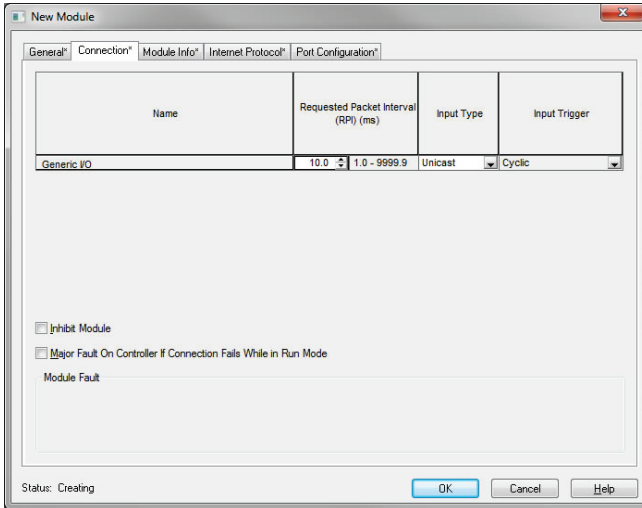

Figure 47: AOP New Module Properties Connection Tab
- 13) Click on the "Connection" tab. Refer to Figure 47.